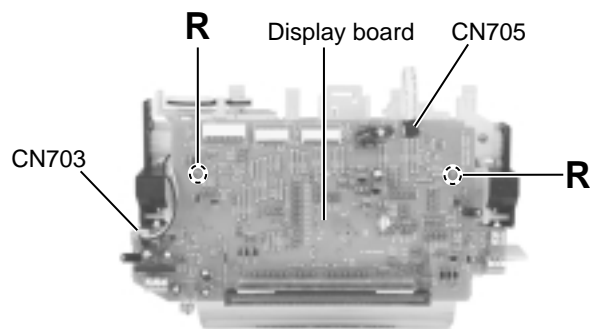

Fig.30
■Removing the display board (See Fig.30)